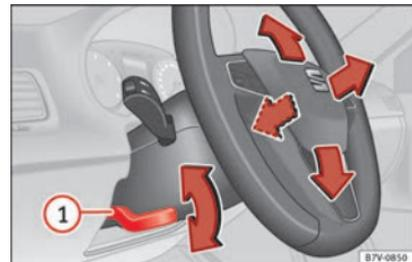

Fig. 25 Mechanical steering wheel adjustment
- Push the lever » » » Fig. 25 ① downwards.